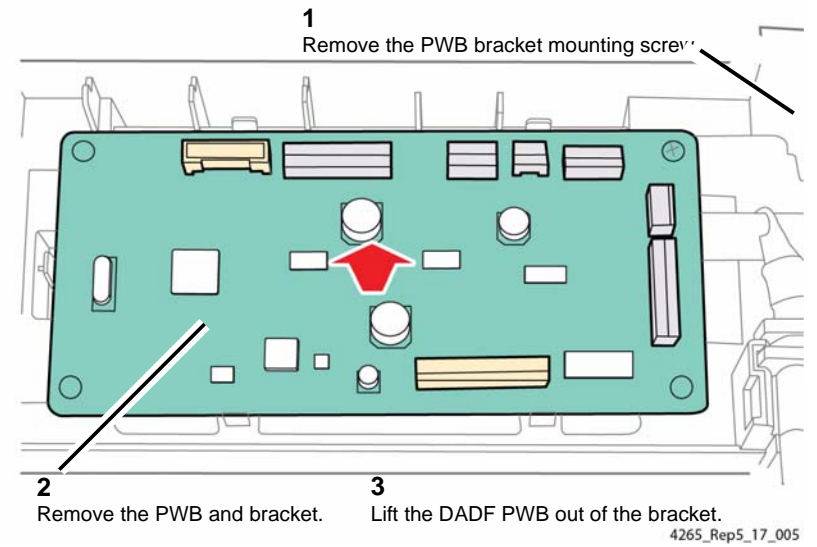

Figure 5 Removing the DADF PWB
7. Remove the DADF PWB (Figure 5).